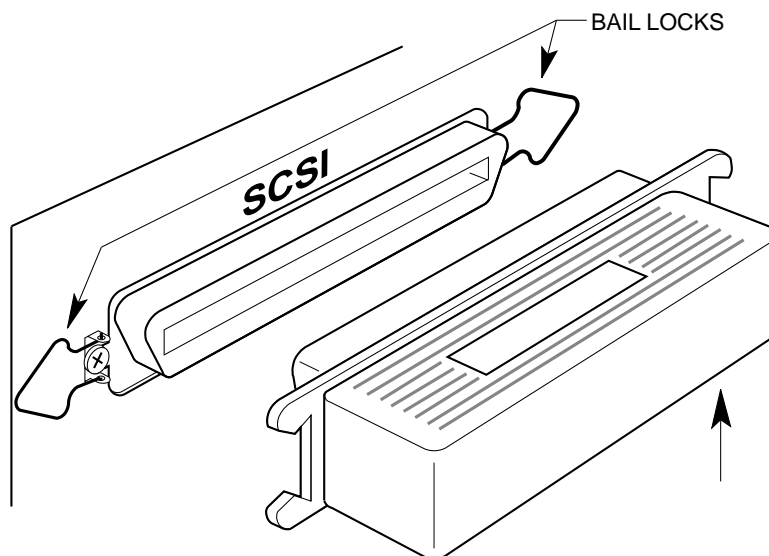

Figure 8a - External SCSI Terminator - Narrow
Figures 8a and 8b show two different types of external SCSI connectors:
1. Figure 8a shows an external narrow SCSI connector and bail locks for holding the terminator in place. This configuration is used on most of Alpha Micro's currently available product. The terminator is installed by plugging it onto the connector, then latching the bail locks into the notches on the sides of terminator.